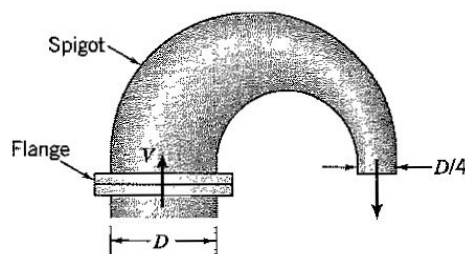

Figure P4.39
4.39 Water of density ρ issues from a spigot of circular cross-section into the atmosphere, as shown in Figure P4.39. At the flange, the velocity is V . The diameter decreases from D